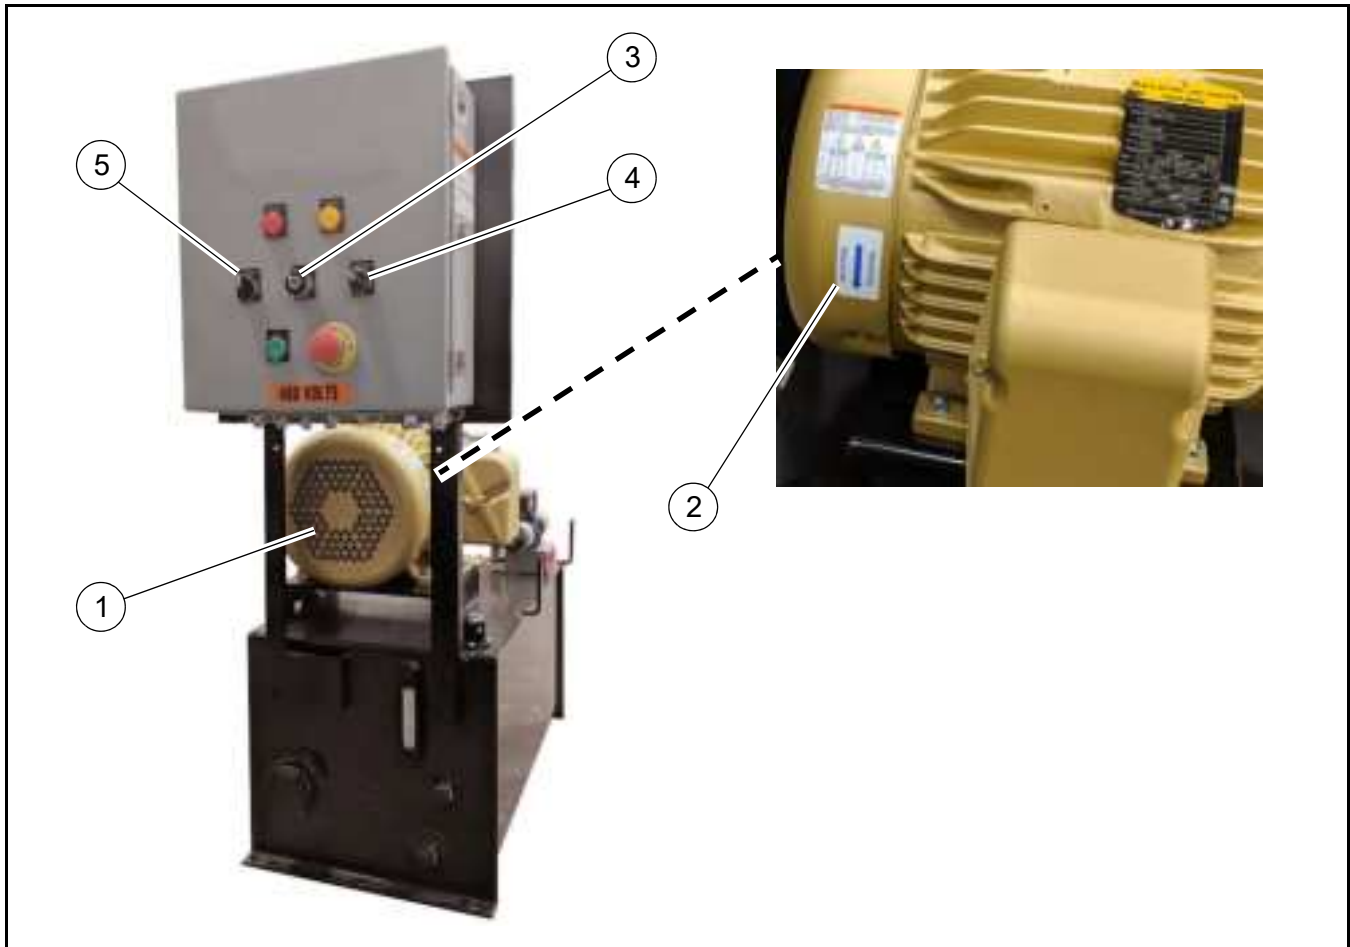

Figure 12
6. Locate the fan cover (**Figure 12, 1**) for inspection of the motor fan to identify motor rotation.
7. Identify label (**Figure 12, 2**) on fan cover to determine the correct motor rotation.
8. Turn the key-locked OFF/ON Switch (**Figure 12, 3**) to the ON position to enable the compactor controls.
9. Turn the MANUAL /AUTO Switch (**Figure 12, 4**) to select the MANUAL mode.
10. Quickly turn the FWD/OFF/REV Switch (**Figure 12, 5**) to the FWD position and back to OFF and stop the motor.